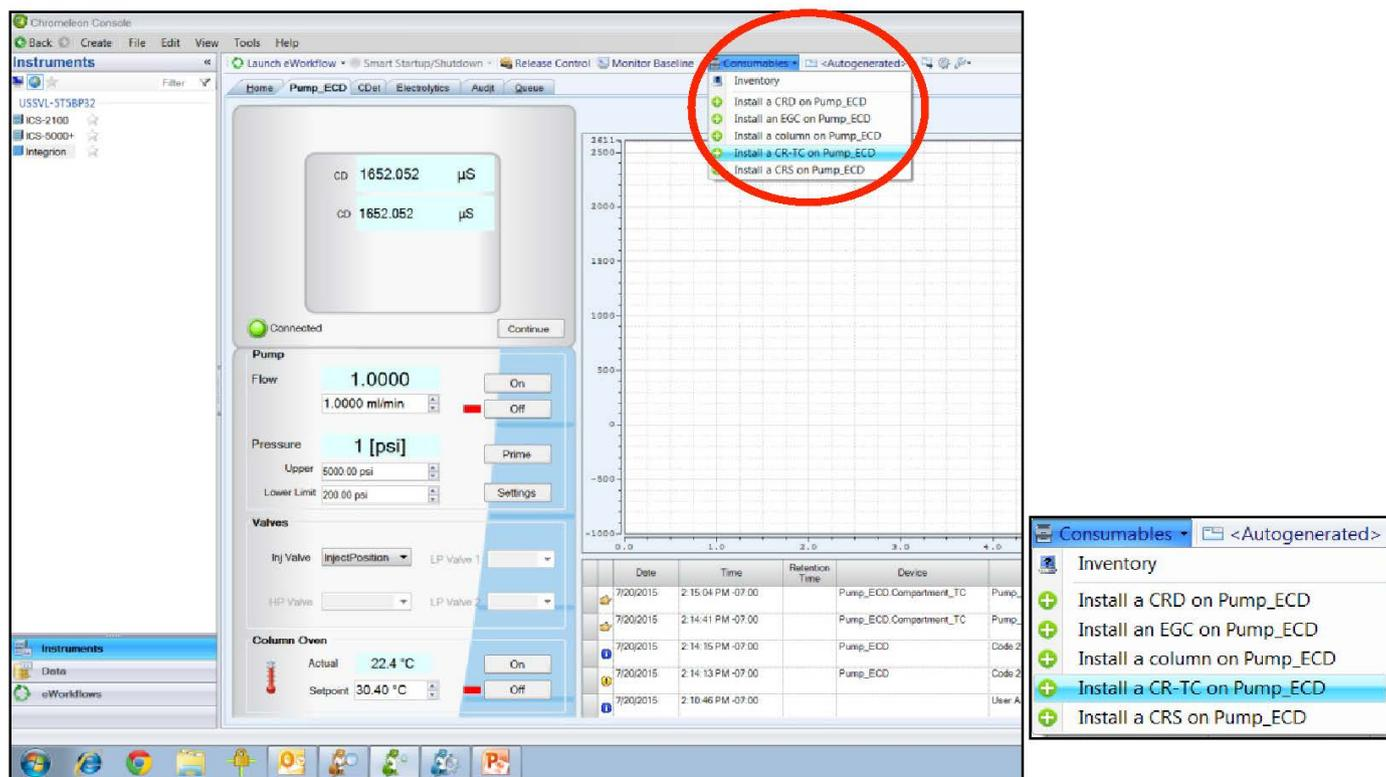

Figure 9. Consumables online installation instructions.
Install the Dionex EGC 500 KOH cartridge and Dionex CR-ATC 600 Continuously Regenerating Anion Trap Column in the reservoir tray compartment. Condition the devices according to instructions in the drop-down menu under Consumables, Install (Figure 9). (This information is also available in the product manuals and the system installation manual.²⁻⁴) Install the black PEEK (0.010 in i.d. tubing) backpressure loop (exerting an additional ~40 psi) from the slotted compartment next to the CD Conductivity Detector to the suppressor Regen In port.
4. Condition the columns for 30 min according to the instructions from the *Consumables, Install Column section* (Figure 9).